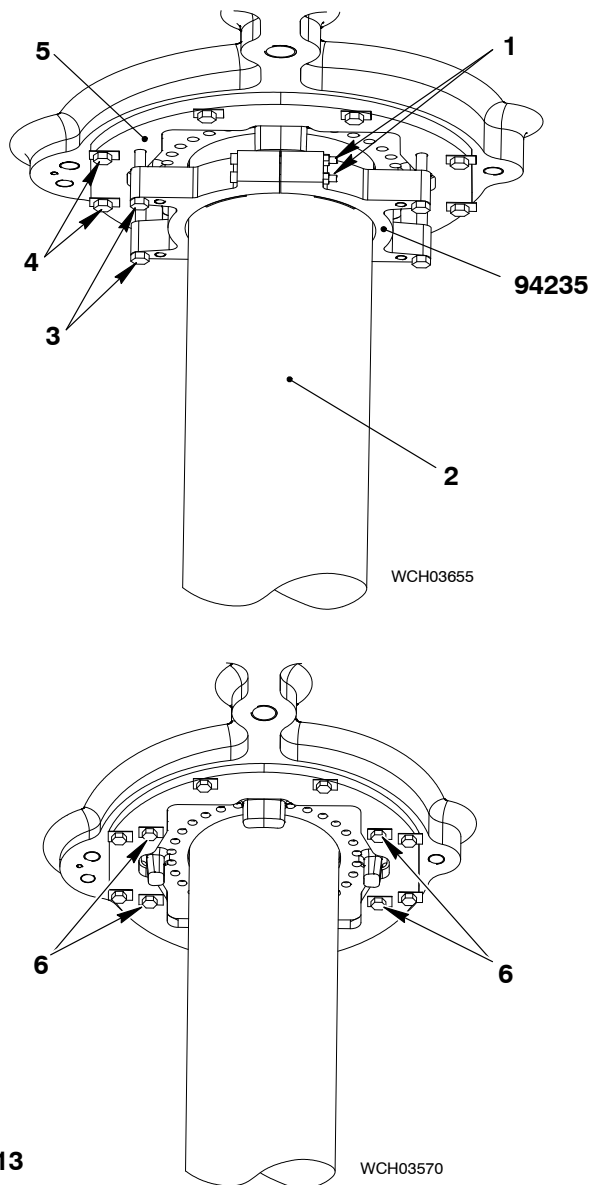
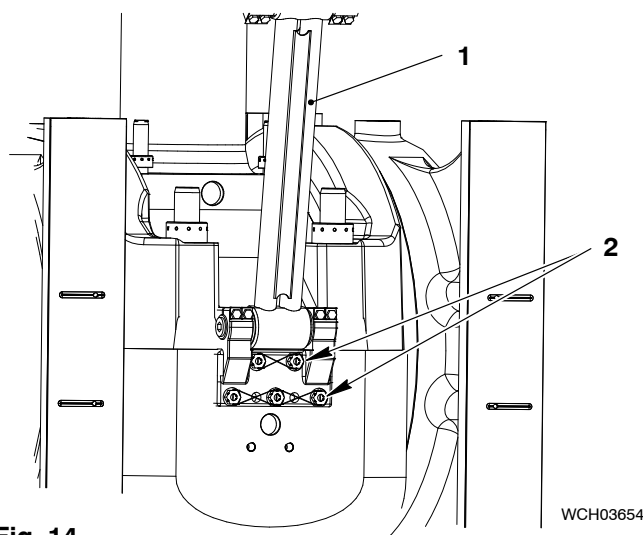

Fig. 13
Fig. 14
- 9) Apply oil to the eight bolts (4, Fig. 13).
**Note: Make sure that the spring dowel pin in the piston rod gland goes into the hole in the support plate (5).**
- 12) Bend the lock-plates to lock the eight bolts (4).
- 13) Remove the four bolts (3).
- 14) Loosen the four bolts (1).
- 16) Apply oil to the four bolts (6).
- 17) Install the four new lock-plates and bolts (6).
- 18) Torque the four bolts (6) to 150 Nm.
- 19) Bend the lock-plates to lock the four bolts (6).
- 20) Attach the toggle lever (1, Fig. 14) to the crosshead.
- 21) Tighten the five M20x70 bolts (3).
- 22) Lock the five bolts (2) with wire as shown.